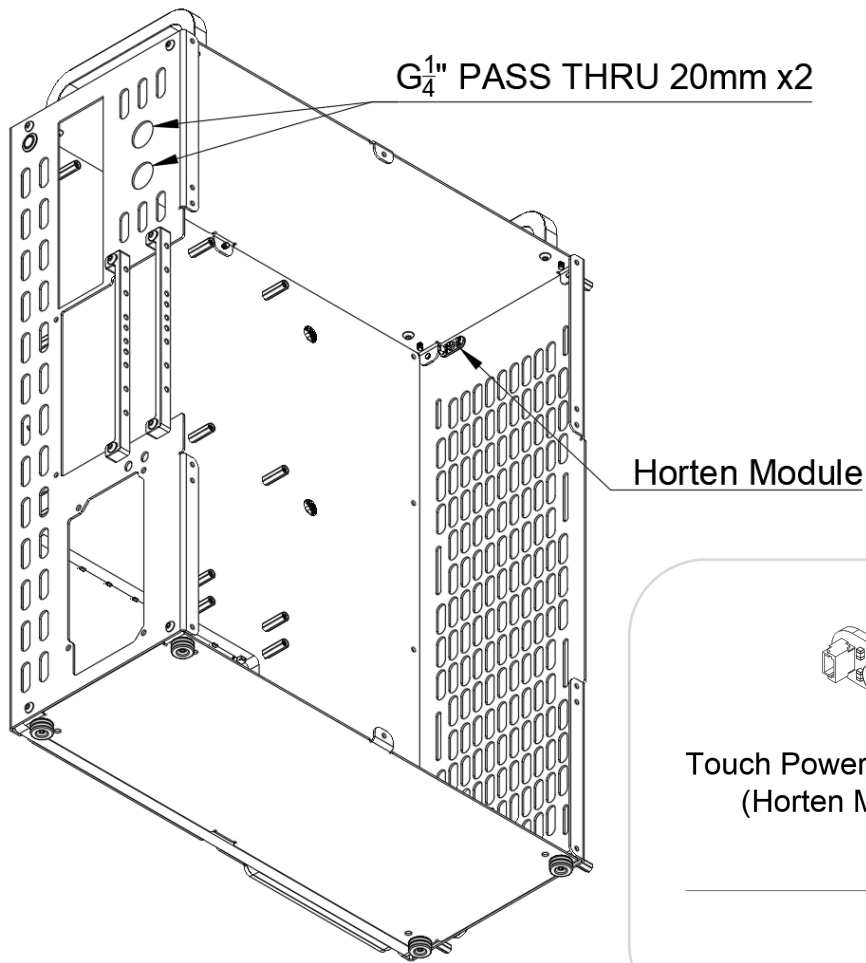
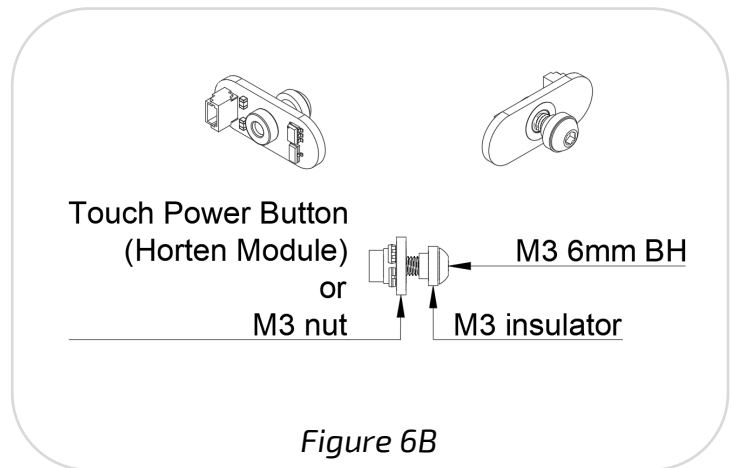

Figure 6A
Figure 6B
- **Step 6 (optional):** Install the Touch Power Button (Horten Module) to the front of the case in the location marked in *Figure 6A* according to the setup in *Figure 6B*. If a Touch Power Button is not used then replace the module with an M3 nut or leave out this step completely